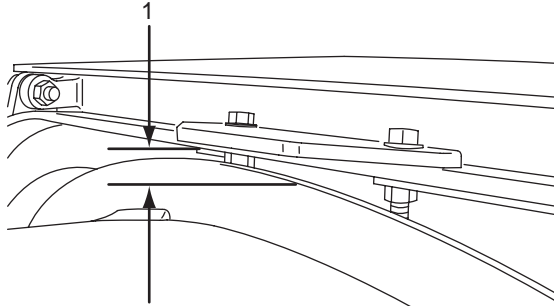

Figure 109
7. Check the debouncer-to-drip ring clearance (Figure 109, Item 1), the clearance should be 3/8 to 1/2 inch (10 to 13 mm) at the closest point.